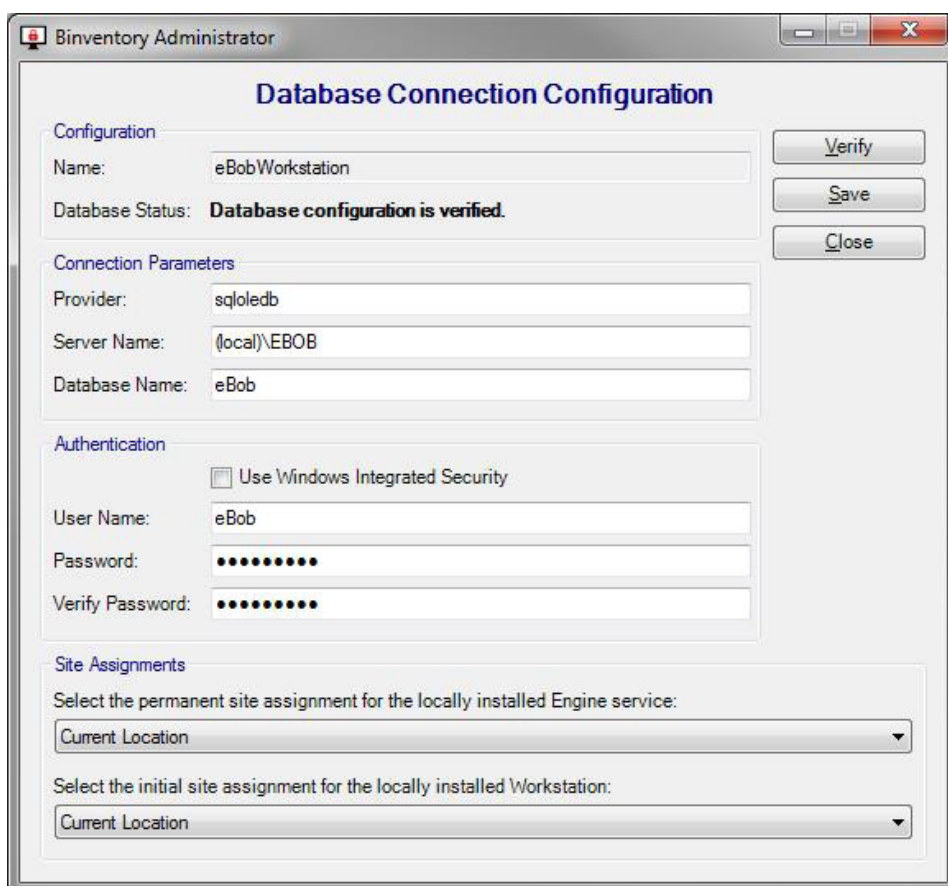

Figure 48
2. Change the default path for Server Name to the static IP address or computer name of the PC hosting the SQL database. Referring to Figure 48, the default Server Name is (local)\EBOB and can be left this way only if the database is installed on this PC. Example using an IP address: *192.168.254.100\EBOB*.